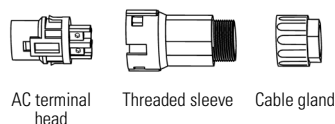

Fig. 27. AC connector.
- a. Extract the AC connector from the accessory bag and disassemble it, following the steps marked on Fig. 27: